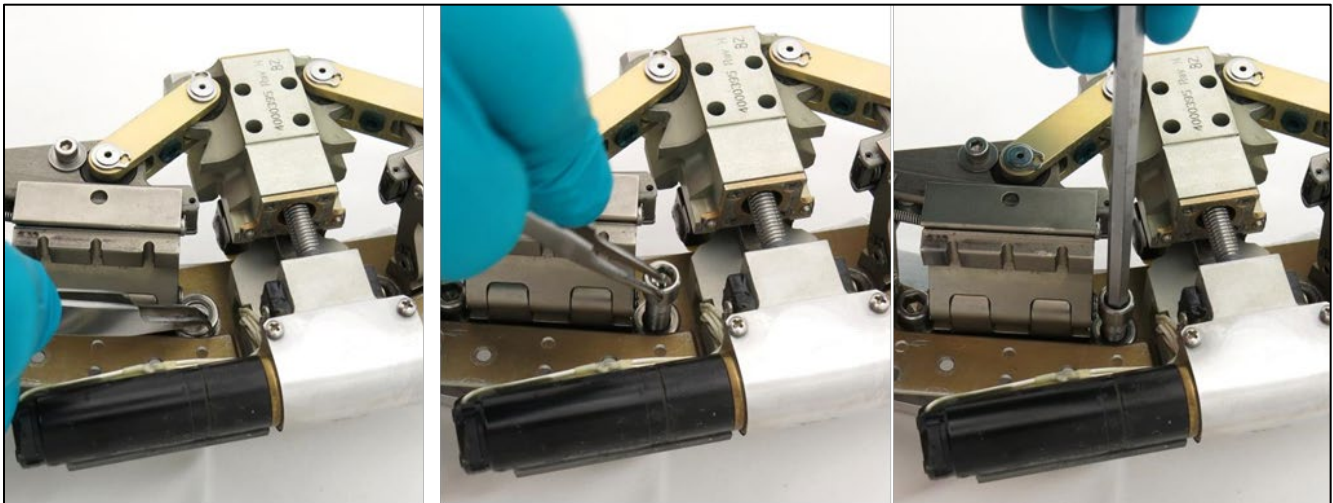

Figure 6-1: Carefully install fasteners immediately adjacent the MBA
1. Do not touch the ball screw. Be especially careful when installing fasteners adjacent the Motor Bracket Assembly. See Figure 6-1.